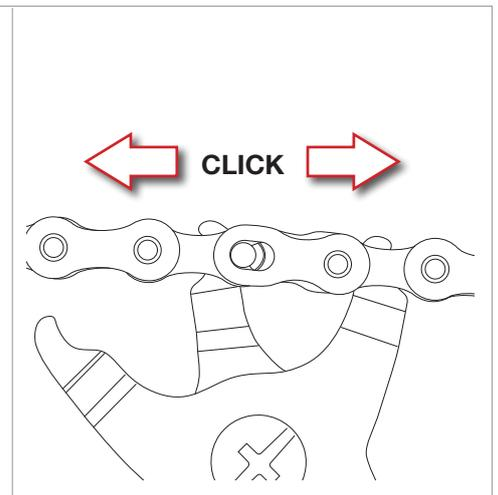

Fig.9
- Press the calipers until you hear a click indicating that the two pins have been positioned in the smaller diameter slot area (Fig. 9).